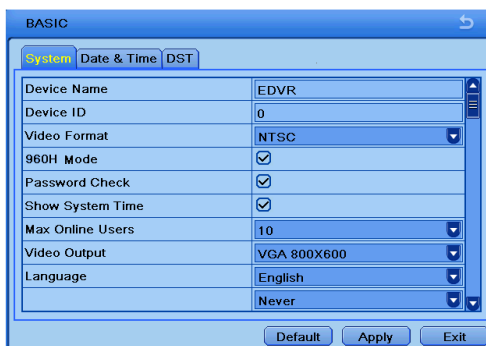

Fig 4-3 Basic Configuration-System
- ① Go to Main Menu→Setup→Basic →System interface. Refer to Fig 4-3.